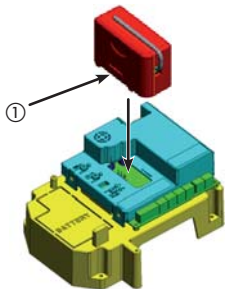

Fig. 10
The control board has an integrated 2-channel decoding system (DS, LSH, LC) named OMNIDEC. This system makes it possible to memory-store both total opening (OPEN A) and partial opening (OPEN B) of the automated system - this is made possible by an additional receiver module (Fig.10 ref. ①) and radio controls on the same frequency.